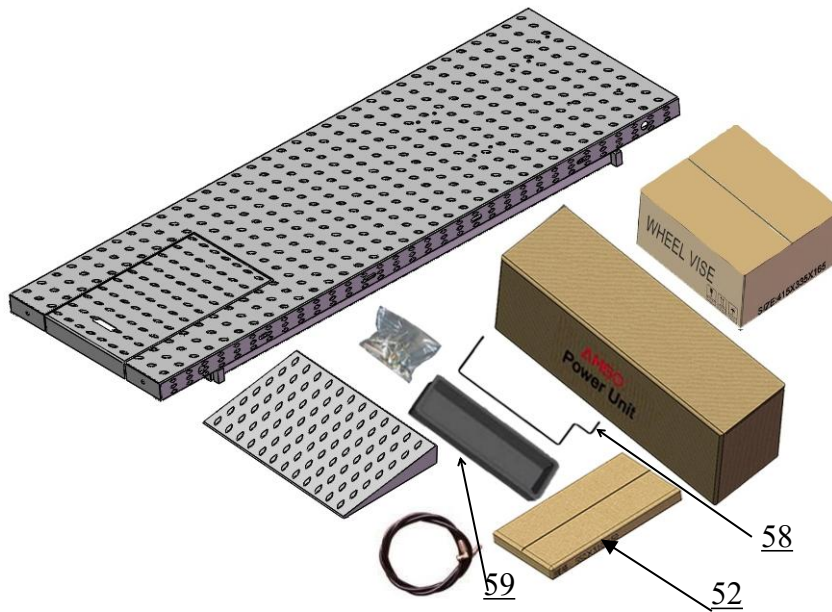

Fig.6
1. Packaged cargo (lift, drive-in ramp, power unit, power unit stand, wheel vise). Move the parts aside, open the outer packing and check the parts according to the shipment parts list. **see Fig.6**